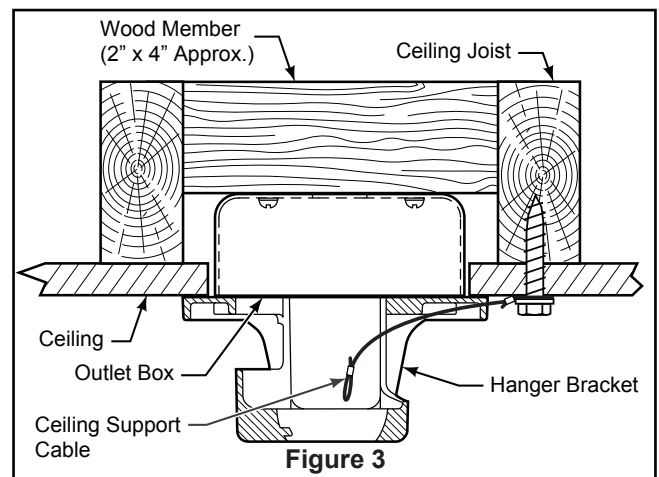

Figure 3
Your new ceiling fan will require a grounded electrical supply line of 120 volts AC, 60 HZ, 15 Amp Circuit. Electrical code requires use of a fan-rated outlet box to support the extra weight and motion associated with a ceiling fan. A fan-rated box will be labeled as such and typically supports up to a 70lb ceiling fan. Fan-Rated Outlet Boxes vary in ratings and design. Ensure the ratings of your ceiling fan outlet box meet the requirements for the ceiling fan being installed. Figure 1, Figure 2 and Figure 3 depicts different structural configurations that may be used for mounting the outlet box.
Deep box with brace (Figure 3)
3. Loosen the two set screws in the downrod support of the motor assembly. Route the brown, blue, red, gray, yellow wires and safety cable through the downrod. (Figure 3)
1. Securely attach the hanger bracket to the outlet box using the outlet box screws and washers supplied with the fan. (Figure 3)
2. Drill a 1/4" pilot hole into the building structure to prevent splitting or cracking with installation of the lag bolt. Using the 3/8" x 2" lag bolt and flat washer, attach safety cable to ceiling joist or wood structural member. The lag bolt will pass through the flat washer, safety cable loop, and into the building structure. (Figure 3)
NOTE: Ceiling support cable cannot be secured to outlet box only, it must be directly secured to ceiling joist or structural member using the 3/8" x 2" lag bolt and flat washer. (Figure 3)
- 2. Slide the receiver into the hanger bracket before wiring as shown in figure 3.
- 3. Remove the battery cover from remote control by screwdriver and retain the screw for later. (Figure 3)